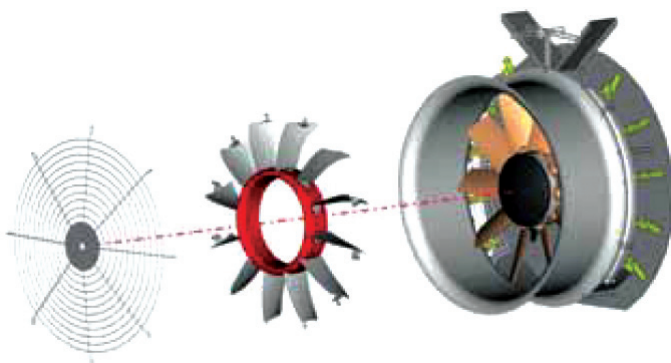

Figure 46
2. Remove the bolts of the metal fan that is bolted to the pulley. (Figure 46)